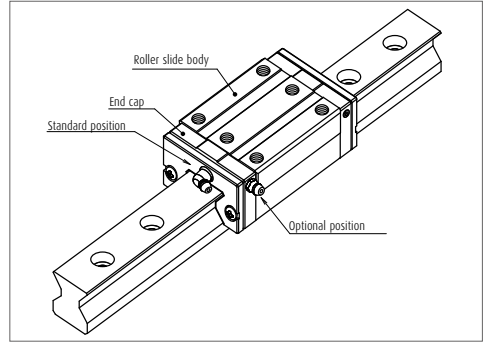

Fig. 12 Mounting position of lubrication accessories
(2) Mounting position of lubrication accessories
- ▶ The standard position of grease fittings and tube fittings is the end face of roller slide. We can mount them on a side of end cap for an option. (Fig. 12) Please consult NSK for installation of grease or tube fittings to the roller slide body or the side of end cap.